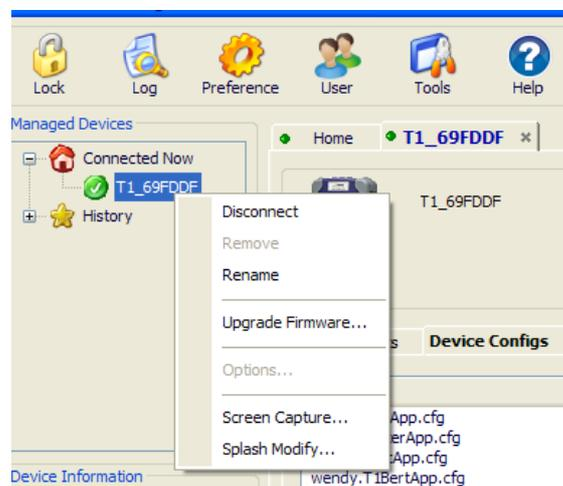

Figure 3 Device menu
- 4 After the device is connected and recognized, a device-specific menu is available by right-clicking on the unit ID, as shown in Figure 3.